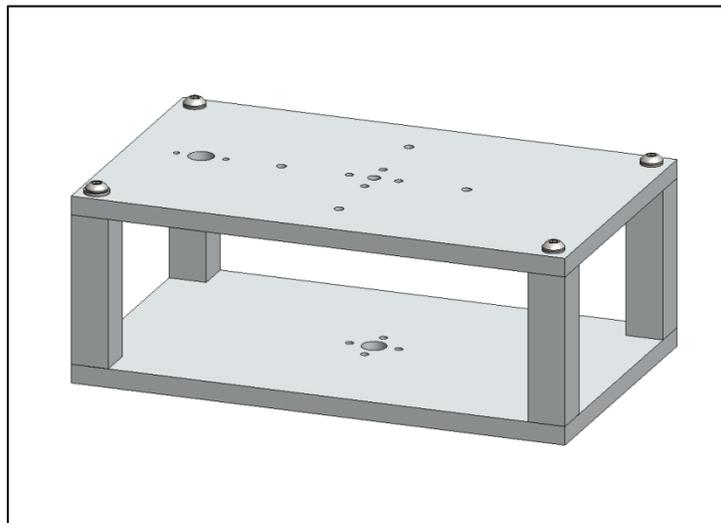

Figure 4.5 – Plate assembly using square posts
- Figure 4.5 shows a design similar to the recommended method